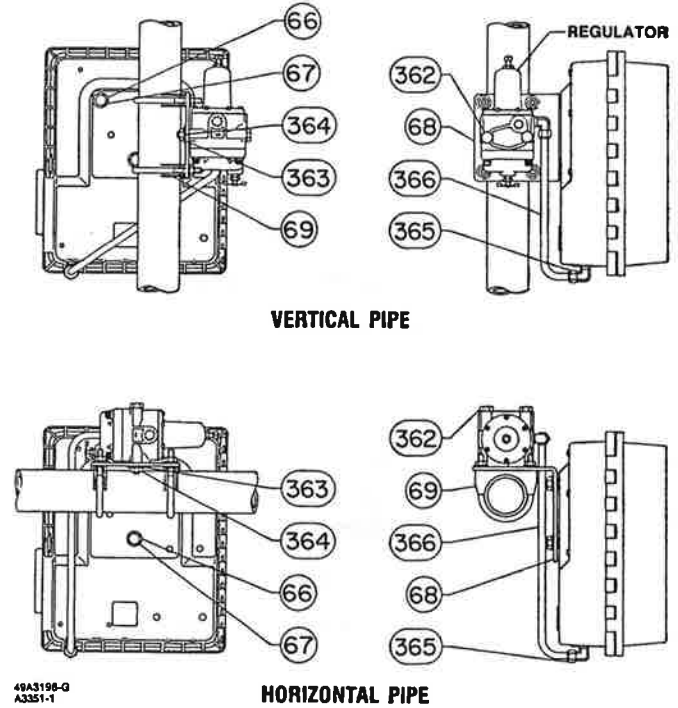

Figure 2-1. Pipestand Mounting
<p>Steady-State Air Consumption: A, B, and C Series Controllers(1)(3)</p> <p>Without Auto/Manual Station</p> <p>3 to 15 psig (0.2 to 1.0 Bar) Output: 3.5 scfh (0.1 m3/h)</p> <p>6 to 30 psig (0.4 to 2.0 Bar) Output: 5.0 scfh (0.14 m3/h)</p> <p>With Auto/Manual Station (suffix letter E)</p> <p>3 to 15 psig or 6 to 30 psig (0.2 to 1.0 Bar or 0.4 to 2.0 Bar) Output: 10.0 scfh (0.28 m3/h)</p>	<p>Operative Ambient Temperature Limits(1)</p> <p>– 40 to 160°F (– 40 to 71.1°C)</p> <p>Mounting</p> <p>Controller can be mounted on pipestand, panel, wall, or actuator. See figures 2-1, 2-2, 2-3, and 2-4.</p> <p>Approximate Weight</p> <p>10 pounds (4.5 kg)</p>
The controllers should be mounted with the housing vertical (as shown in figures 2-1, 2-2, 2-3, and 2-4) so that the vent points down.
Refer to figure 2-1. Pipestand mounting parts are provided to mount the controller to a 2-inch (nominal) pipe. Attach a bracket (key 68) to the controller with cap screws (key 66) and lock washers (key 67). Attach two clamps (key 69) to the bracket, and fasten the controller to the pipe.